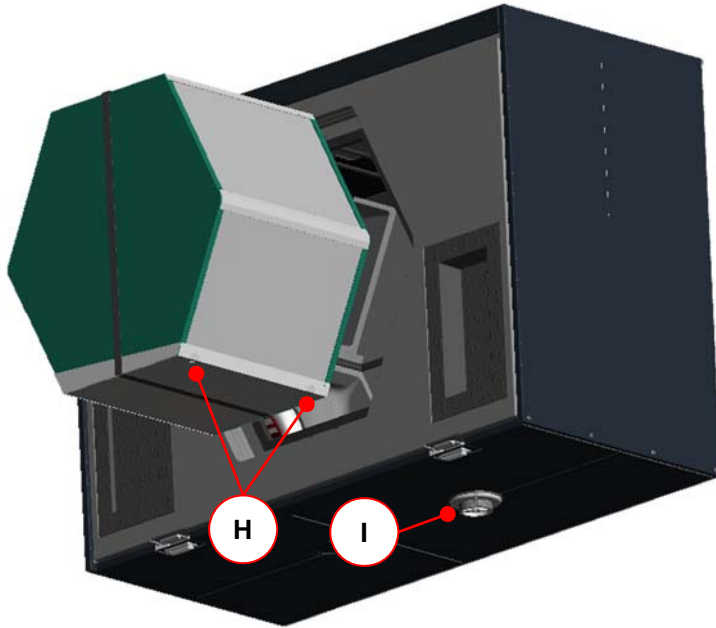

Fig. 31: Position of condensate tray when sliding in the heat exchanger
2. Insert the relevant heat exchanger type while following the instructions for Fig. 31 and then perform work steps 9 to 10 as described in 0.